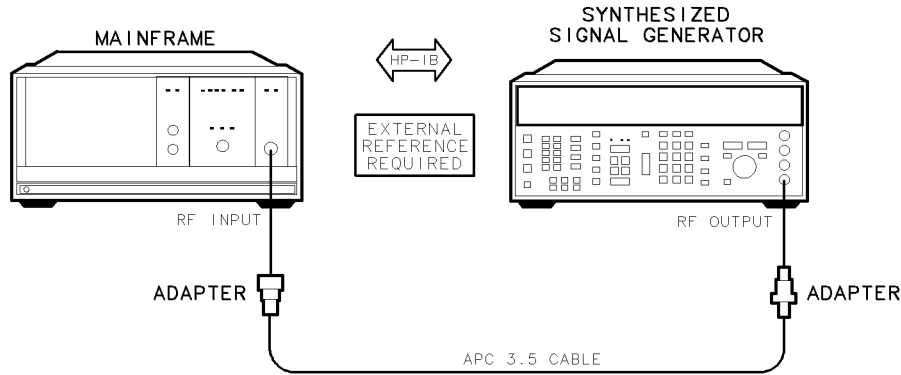

Figure 7-17. LO Frequency Error versus Sweep Time Test Setup
1. Connect the HP 8663A synthesized signal generator’s RF OUTPUT to the DUT’s RF INPUT using the adapters as shown in Figure 7-17. Refer to Figure 7-1 for system rear panel connections.